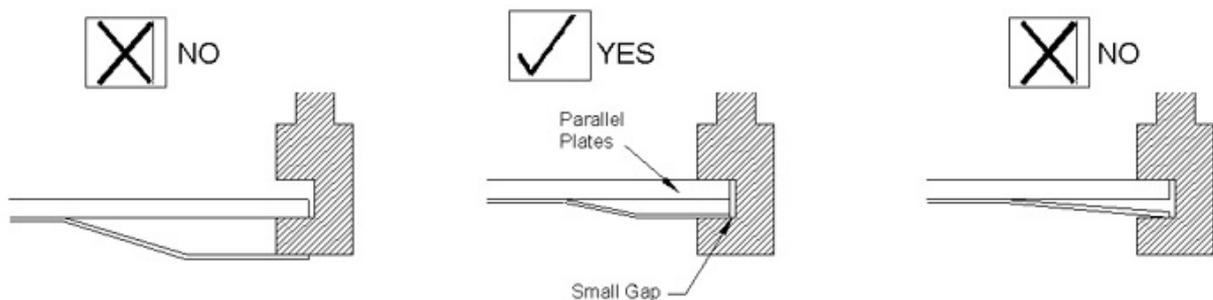

Figure 11 : Spool assembly
- ↺ that the spindle moves freely inside the spool block. If not, the two centre journals of the spindle can be cleaned using 1200 grit water paper. (see figure 11)